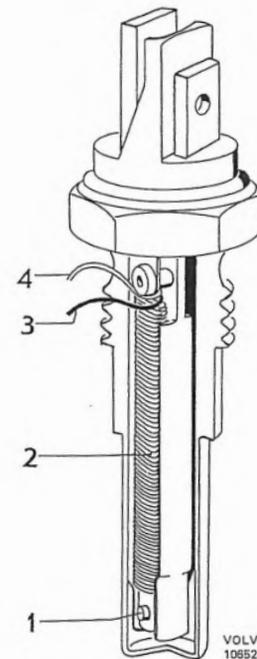

Fig. 2-72. Thermal timer
When the engine is cold (below $+35^{\circ}\text{C} = 95^{\circ}\text{F}$) the contacts (1, Fig. 2-72) are closed. When the starter motor is operating, current flows from it to the cold start valve and via cable (3) and contacts (1) to ground. Current at the same time flows from the starter motor via cable (4) and contacts (1) to ground. As